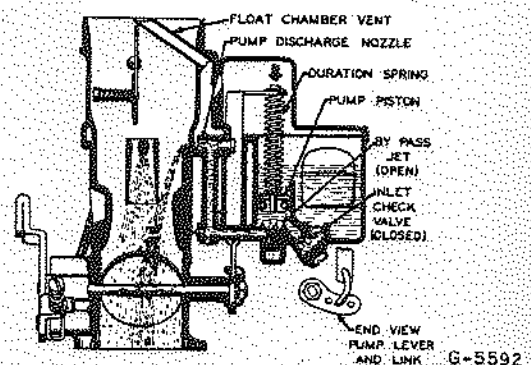

Fig. 11 - Accelerating System
**Accelerating system** - To ensure a smooth uninterrupted flow of power for acceleration, additional fuel must be metered into the engine. This is accomplished through the use of an accelerating pump which is operated from the throttle linkage. As the throttle valve is opened, the accelerating pump moves the pump piston down to close the inlet ball check valve and force a metered quantity of extra fuel through the pump by-pass jet and pump discharge nozzle into the air stream (see Fig. 11).